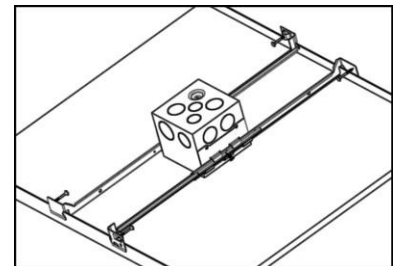
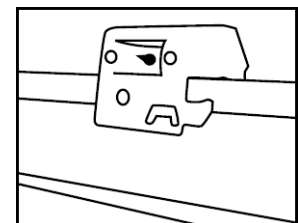

Figure 7
Figure 8
Step 3. Place fixture into position and snap bar hanger foot with integral T-bar notch onto T-bars (Fig. 7). Additional holes are provided for securing with wire or screws if desired (Fig. 8).